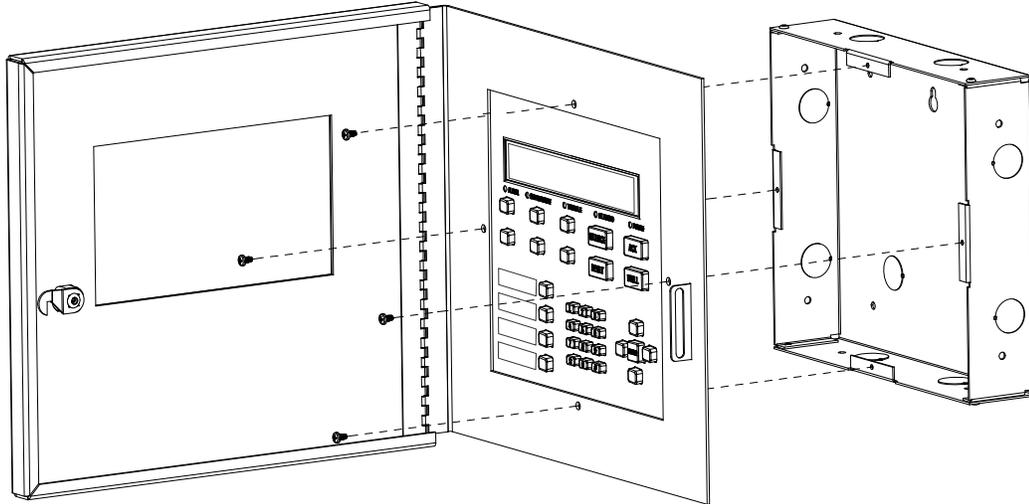

Figure 4.23 Attaching Annunciator / Door Assembly to Backbox
- Attach the door assembly to the backbox using the screws provided. Refer to Figure 4.23.